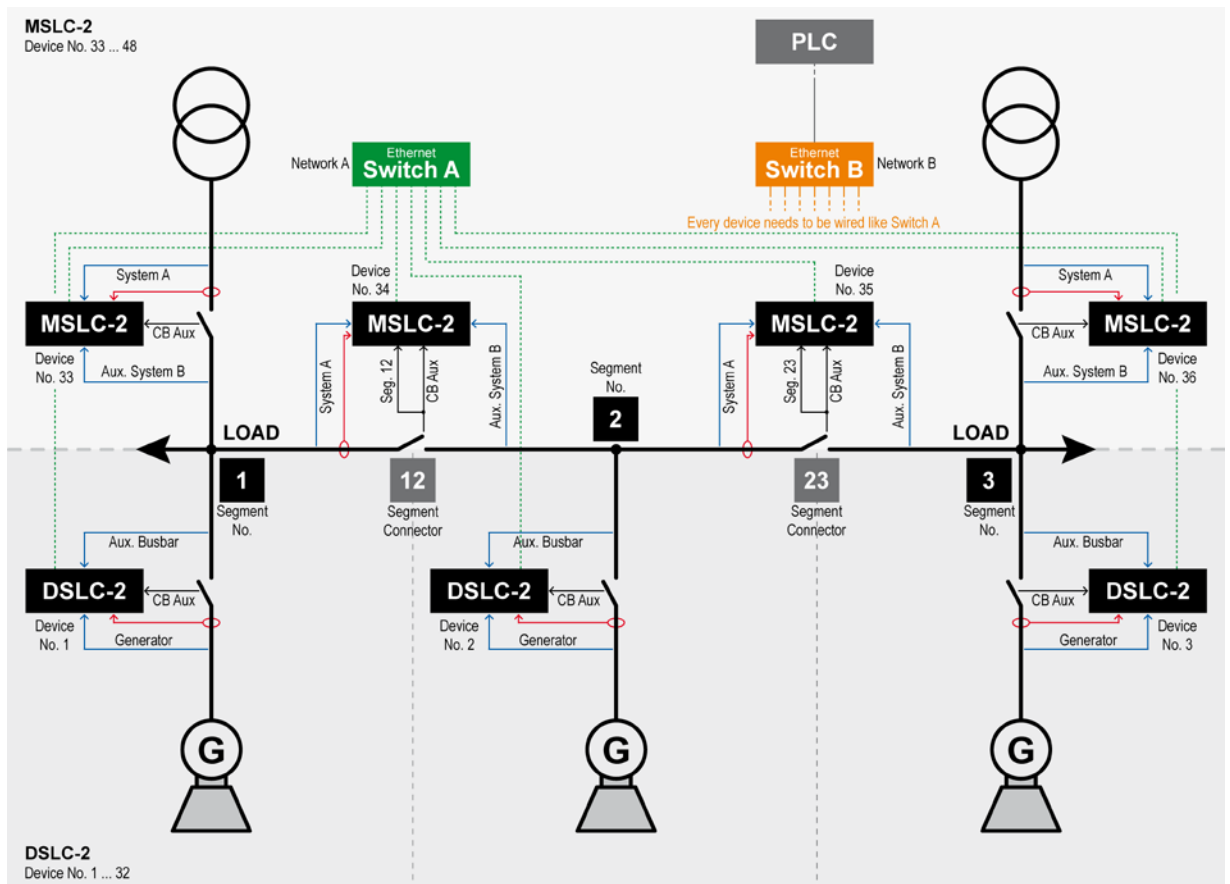

Figure 3-44: Example of an online diagram with all required information to setup the units
7. You can optionally draw the current measurement and the amount of phases in your online diagram (refer to Figure 3-44).